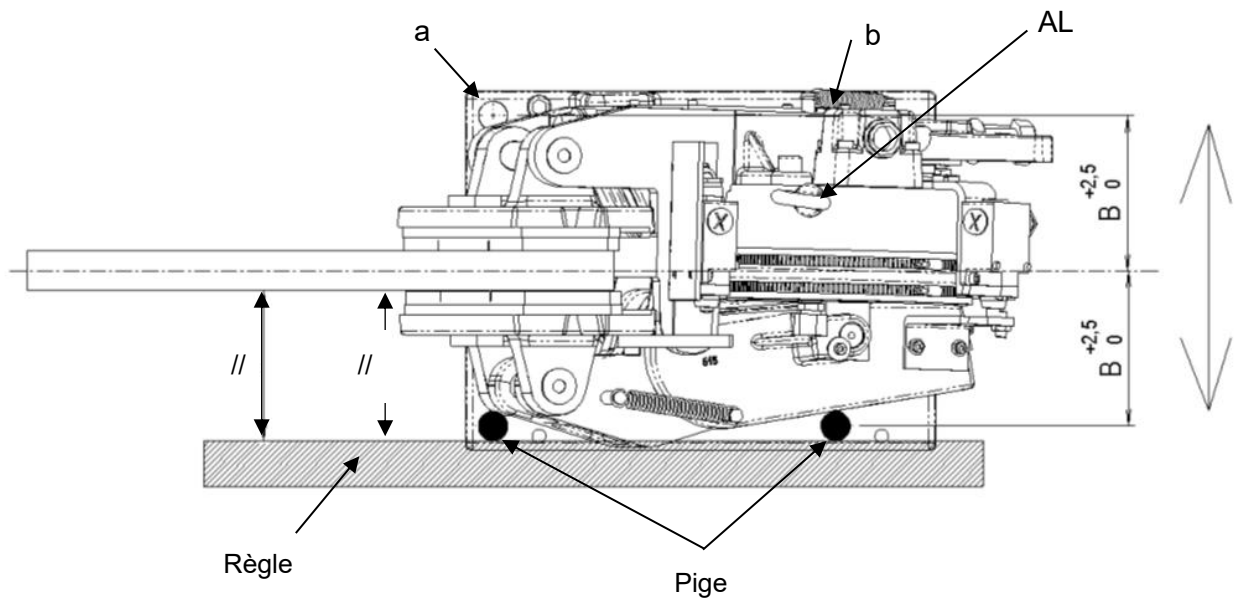

Figure 2.1
1. Position the brake onto the brake disc so that the disc is located between the two brake pads. Use the lifting eye AL (Figure 2.1) to lift the brake.
3. Thread in 2 attachment screws, without tightening them, at the spots a and b (Figure 2.1) and insert two pins in the two opposite holes.